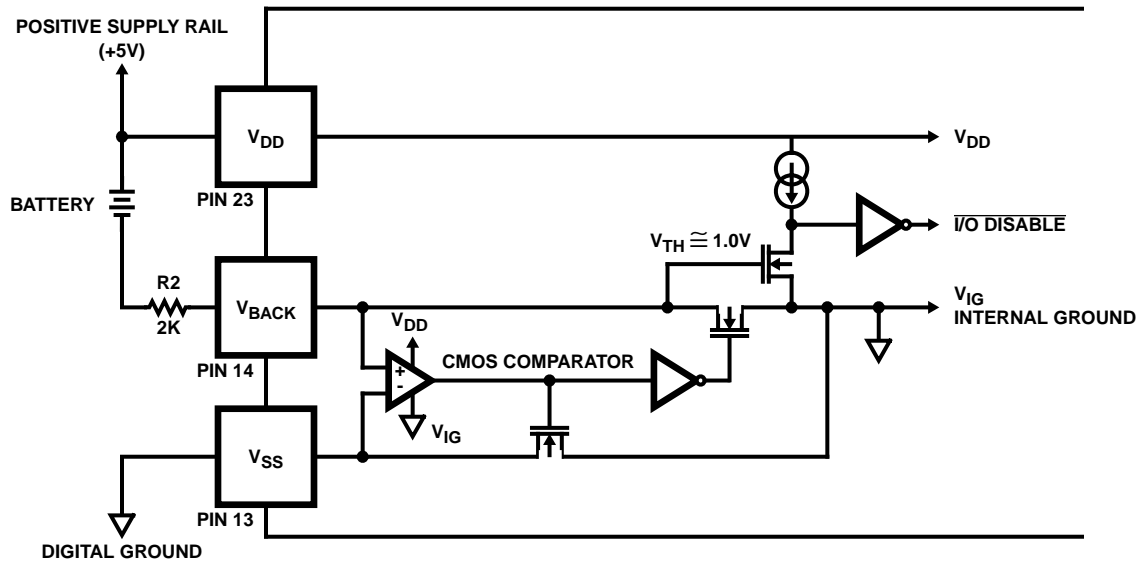

FIGURE 6. SIMPLIFIED ICM7170 BATTERY BACKUP CIRCUIT
The ICM7170 contains an on-chip power down detector that eliminates the need for external components to support the battery-backup switchover function, as shown in Figure 6. Whenever the voltage from the V_{SS} pin to the V_{BACKUP} pin is less than approximately 1.0V (the V_{TH} of the N-channel MOSFET), the data bus I/O buffers in the ICM7170 are automatically disabled and the chip cannot be read or written to. This prevents random data from the microprocessor being written to the clock registers as the power supply is going down.
The new load configuration (Figure 6) allows these two conditions to be met independently. The two load capacitors, C1 and C2, provide a fixed load to the oscillator and crystal. C3 adjusts the frequency that the circuit resonates at by reducing the effective value of the crystal's motional capacitance, C0. This minute adjustment does not appreciably change the load of the overall system, therefore, stability is no longer affected by tuning. Typical values for these capacitors are shown in Table 5. C1 and C2 must always be greater than twice the crystal's recommended load capacitance in order for C3 to be able to trim the frequency. Some experimentation may be necessary to determine the ideal values of C1 and C2 for a particular crystal.
4. EXTERNAL BATTERY BACKUP - The ICM7170 may be placed on the same power supply as battery-backed up RAM by keeping the ICM7170 in its operational state and having an external circuit switch between system and backup power for the ICM7170 and the RAM. In this case V_{BACKUP} should be pulled up to V_{DD} through a 2K resistor. Although the ICM7170 is always "on" in this configuration, its current consumption will typically be less than a microamp greater than that of standby operation at the same supply voltage (See Note 9). Proper consideration must be given to disabling the ICM7170s and the RAMs I/O before system power is removed. This is important because many microprocessors can generate spurious write signals when their supply falls below their specified operating voltage limits. NANDing CS (or WR) with a POWERGOOD signal will create a \overline{CS} (or \overline{WR}) that is only valid when system power is within specifications. The POWERGOOD signal should be generated by an accurate supply monitor such as the ICL7665 under/over voltage detector. An alternate method of disabling the ICM7170's I/O is to pull V_{BACKUP} down to under a volt above V_{SS} ($V_{SS} < V_{BACKUP} < 1.0V$). This will cause the ICM7170 to internally disable all I/O. Do not allow V_{BACKUP} to equal V_{SS} , since this could cause oscillation of the battery backup comparator (See Figure 6). $V_{BACKUP} = V_{SS} + 0.5V$ will disable the I/O and provide enough overdrive for the comparator.